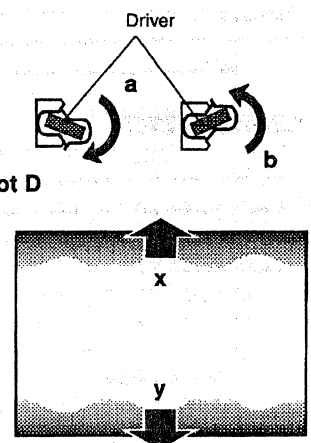

Fig.10-2
- 2) If the un-uniform color appears on the top or bottom of the screen as shown in Fig.10-2, loosen 2 screws "A" with the 2.5mm hex driver(Fig.11) and adjust the screw "B" to make color uniformity in white.